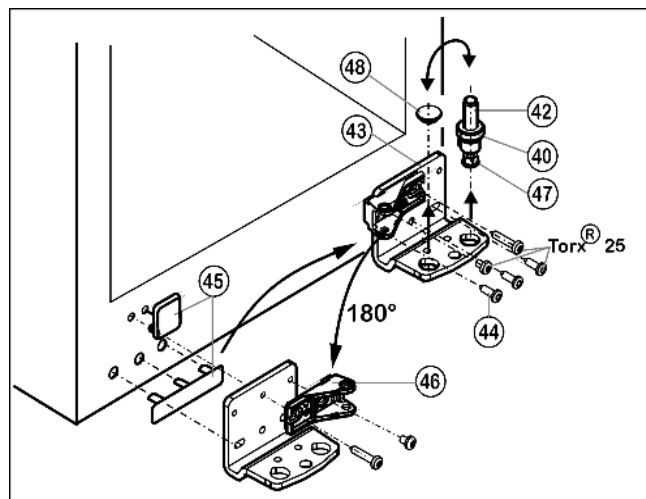

Fig. 9
- ▶ Lift out the bearing pin Fig. 9 (42) together with washer Fig. 9 (40) and adjustable-height foot Fig. 9 (47).
- ▶ Lift off the stopper Fig. 9 (48).
- ▶ Unscrew the turn hinge Fig. 9 (43).
- ▶ Carefully lift off the covers on the handle side Fig. 9 (45) and transfer them to the opposite side.
- ▶ Screw the bottom turn hinge Fig. 9 (43) firmly into place (with 4 Nm) on the new hinge side, possibly using a cordless screwdriver.
- ▶ Unscrew the bearing element Fig. 9 (46), turn it through 180° and screw it back firmly into place, always screw the long screw into the oblong hole.
- ▶ Re-insert the stopper Fig. 9 (48) into the other hole.
- ▶ Re-insert the bearing pin Fig. 9 (42) together with the washer and adjustable-height foot. In so doing, pay attention that the locating lug points backwards
- ▶ Place the door from above onto the lower bearing pin Fig. 9 (42).
- ▶ If necessary, align the door to the appliance housing by way of the oblong holes in the bottom turn hinge Fig. 9 (43). To do so, unscrew the middle screw.